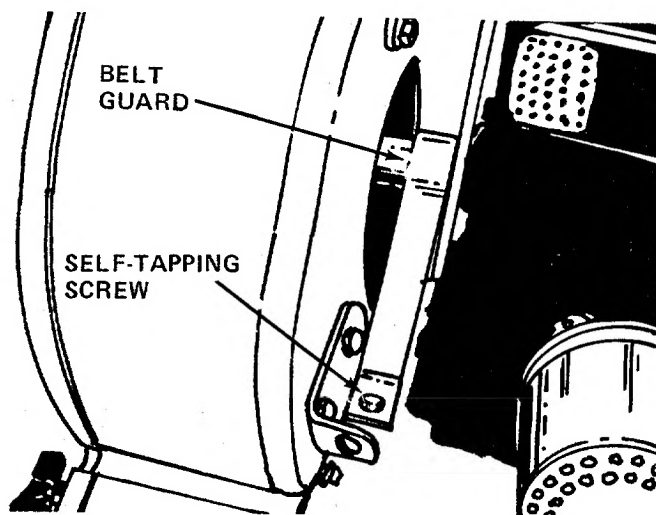

FIGURE 19
4. Remove two self-tapping screws which hold the belt guard. See figure 19. A 3/8" wrench is required. Lift off belt guard.